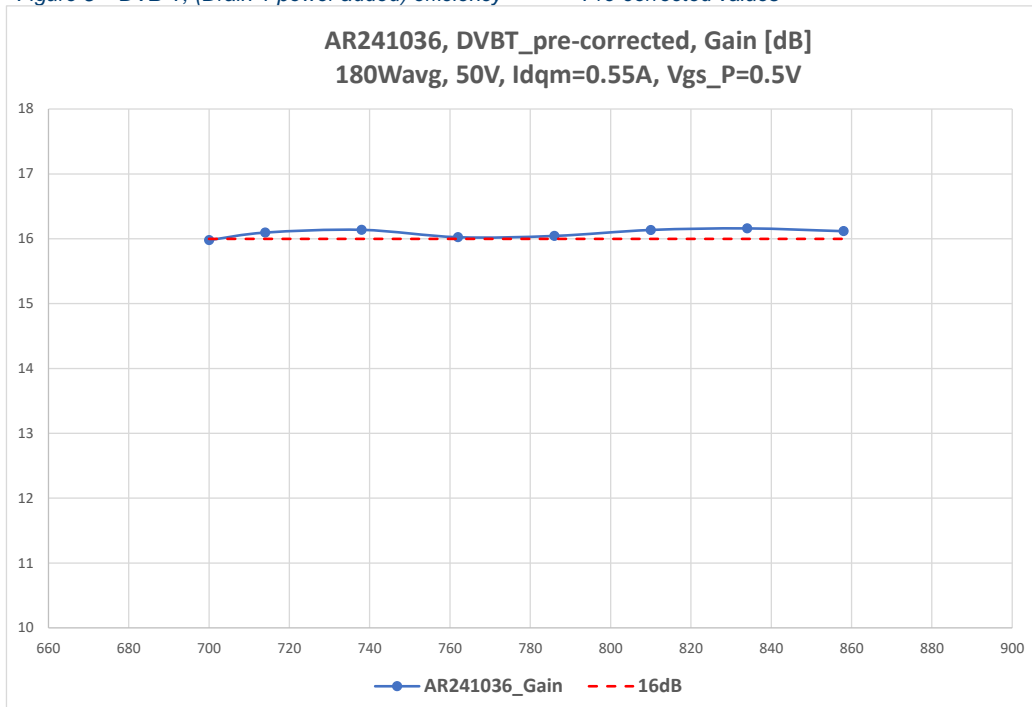

Figure 6 DVB-T, Gain Pre-corrected values
- Figure 6 DVB-T, Gain Pre-corrected values 8